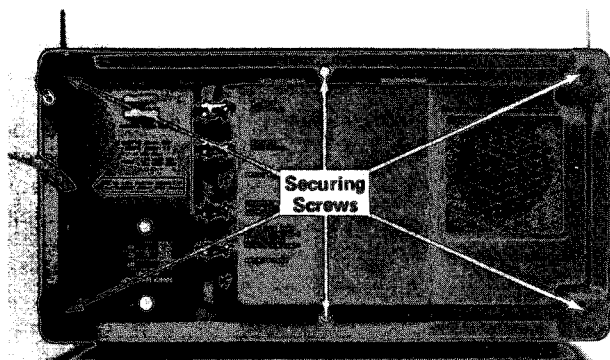

Fig. 4-1. Removing wrap-around cabinet.
2. Remove the six screws indicated in Fig. 4-1 and remove tie instrument feet and rear ring assembly from the instrument.